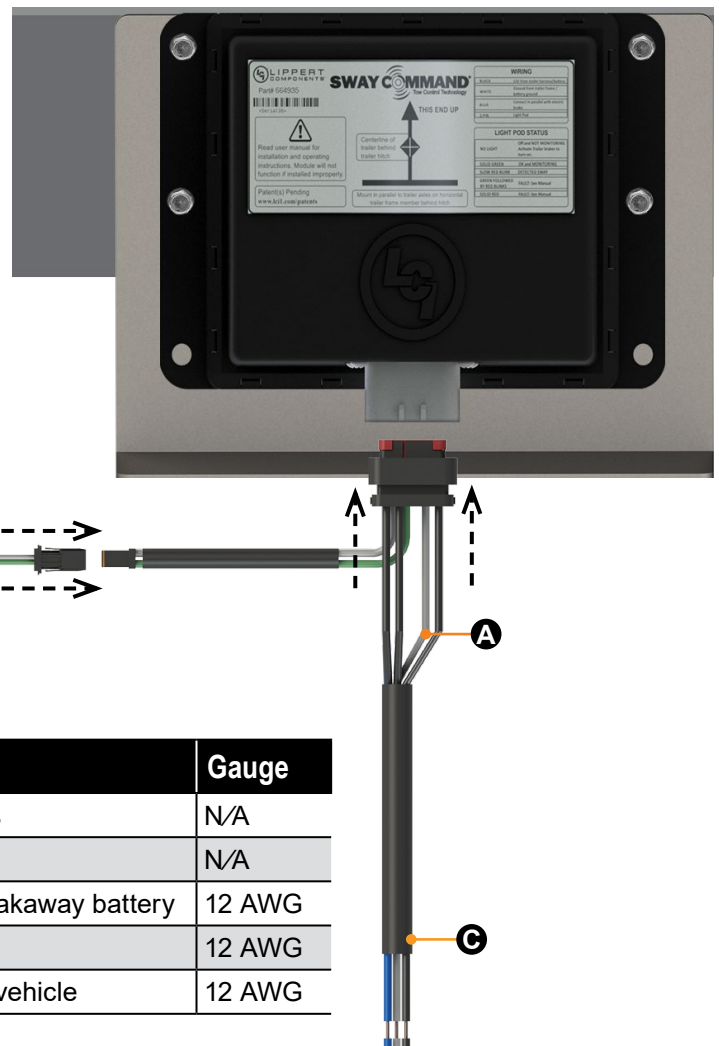

Fig.3
6. Make sure controller orientation is correct (Fig.3).